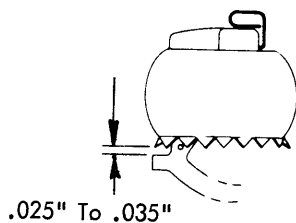

FIGURE 41. Skirt Clearance
- b. Adjust the detent actuating lever support front or rear (under its locking screw) so that the rotate detent will clear the teeth on the type head skirt by .025" to .035" when the cycle shaft is at rest (Fig. 41). This clearance should be observed when the type head is manually tilted to a two tilt position since the two tilt position provides the rotate detent with the least amount of motion.